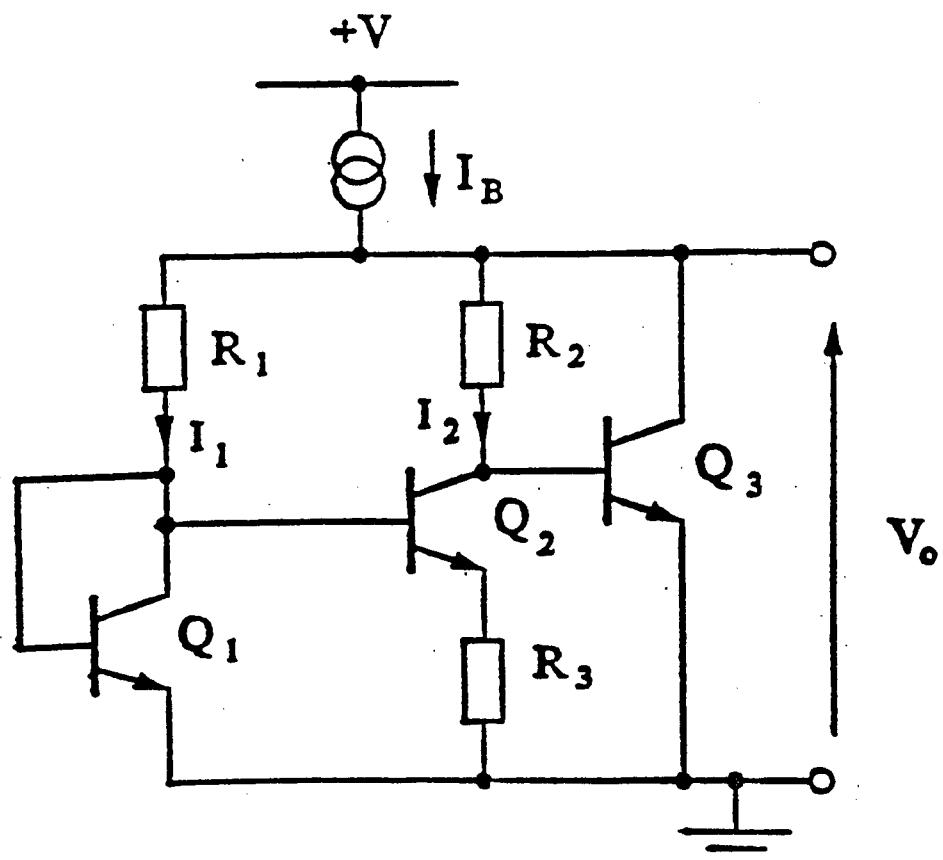

Figure 1(a)
1. Figure 1 shows two popular biasing schemes typically used in analogue integrated systems. Briefly outline the main feature of each of these circuits. [3]
For the bandgap voltage reference circuit of Figure 1(a), show that $\delta V_0 / \delta T = 0$ (where T is temperature) if $(R_2/R_3)\ln[I_1/I_2] = 29$ for $V_0 = 1.283$ V.
Calculate the fractional temperature coefficient in ppm/ $^\circ\text{C}$ for the current generator of Figure 1(b) at room temperature, given that R is a polysilicon resistor with a temperature coefficient of $1500\ \text{ppm}/^\circ\text{C}$. [3]
Show that the circuit of Figure 1(b) can be developed into a current source with output current directly proportional to absolute temperature and virtually independent of supply voltage. It is likely that on power-up the output current will fall into a zero current state. Sketch a suitable start-up circuit that ensures that this condition will not occur and explain the operation of the circuit. [8]